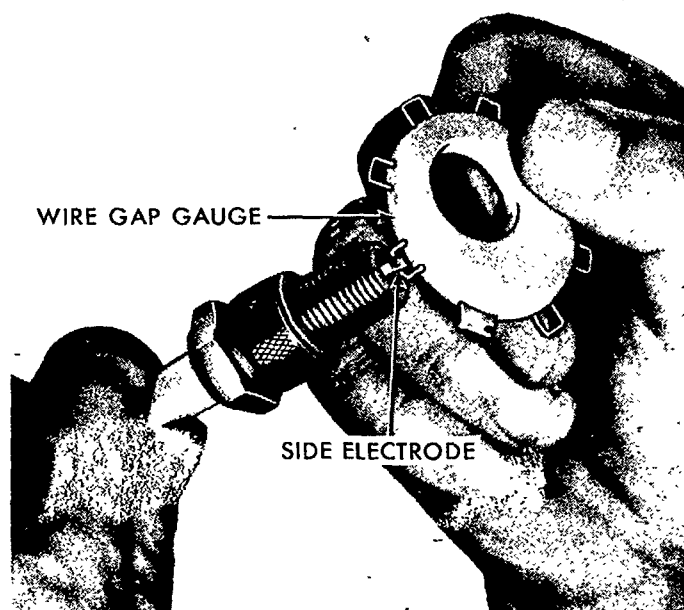

Figure 80
7. Check the gap with a wire gauge, Figure 80, held parallel to the gap surface. A light drag should be felt when the wire gauge passes through the gap. Adjust the gap by bending the ground electrode to the center electrode. Do not move the center electrode as the insulator tip may be damaged.